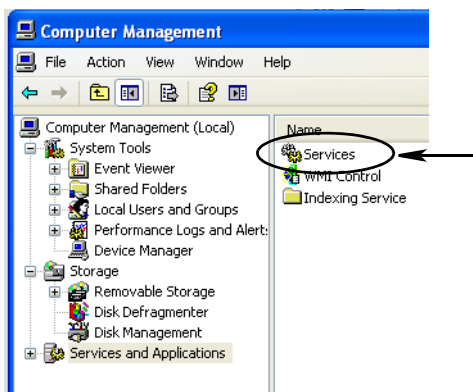

FIG. 55
- c. Double-cliquez sur "Services" (FIG. 55).